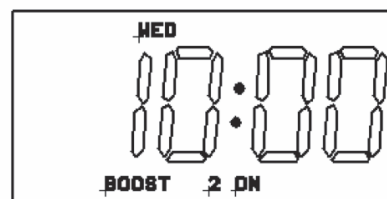

Figure B-20: Two hour boost ON
- Pressing '-' (Boost) twice in normal operating mode turns on for 2 hour period. Refer to Figure B-20.